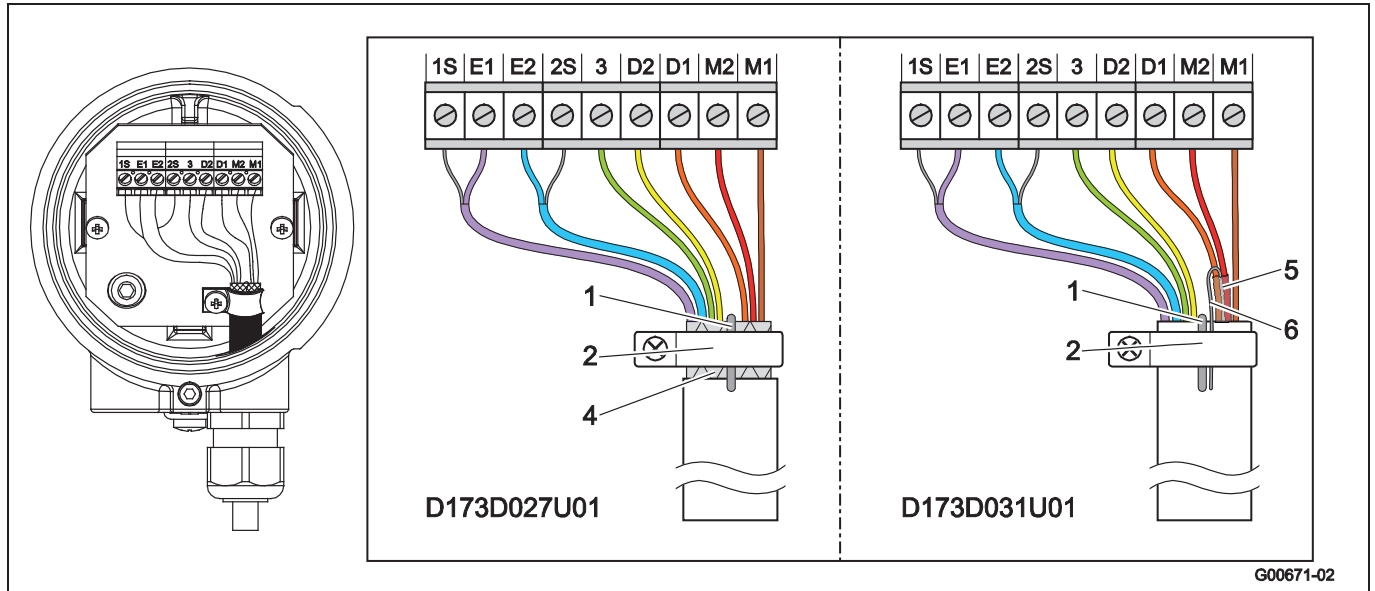

Fig. 38
- Connect all other wires as shown in Fig. 38